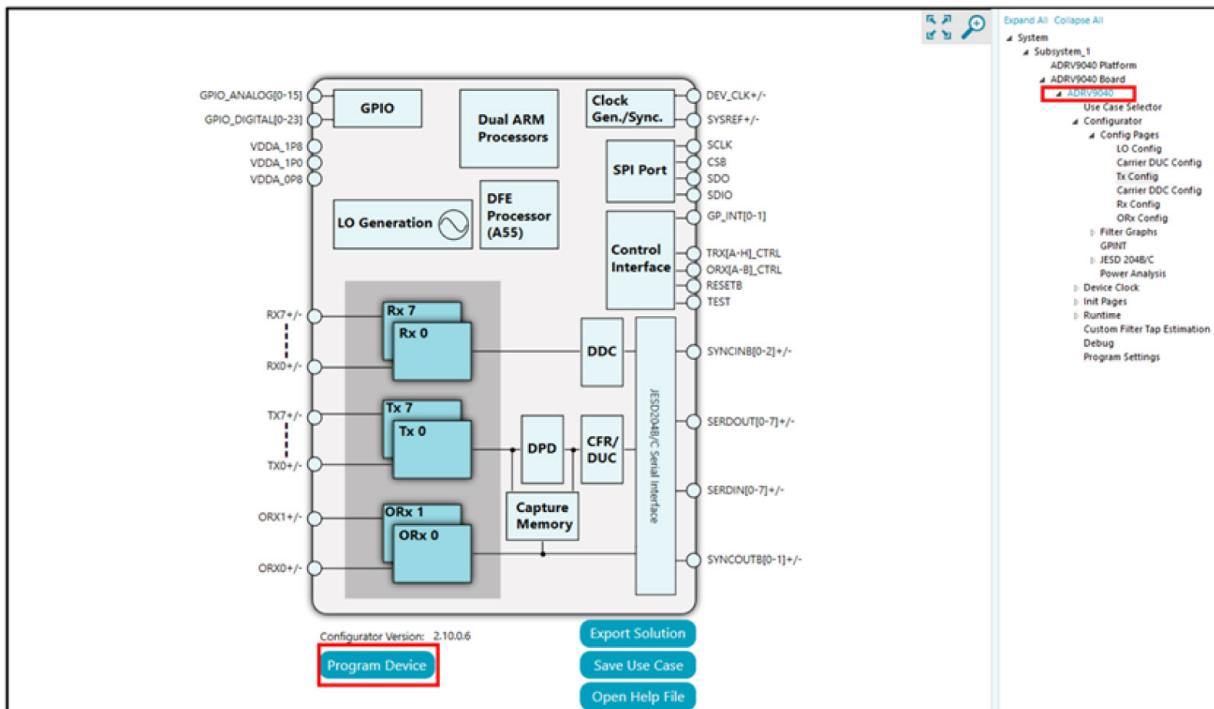

Figure 20. Top Level Program Page
5. Click on **Program Device** as shown in Figure 20. Once the part is programmed successfully, the updated LO frequency is ready to use.